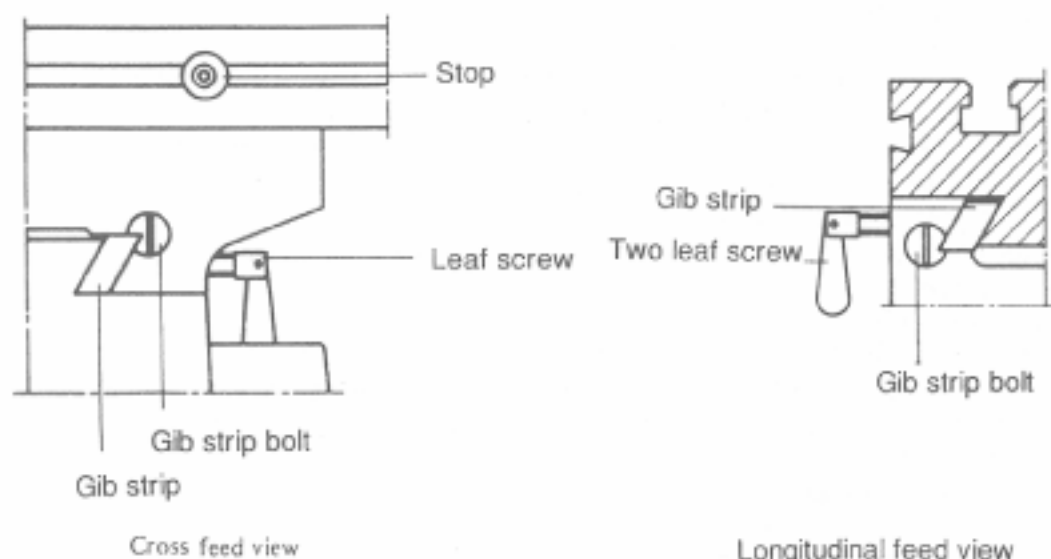

Fig.3.
7. ADJUSTING TABLE SLACK AND COMPENSATE FOR WEAR(see fig. 3)
- (1) Your machine is equipped with Jib strip adjustment to compensate for wear and excess slack on cross and longitudinal travel.
- (2) Clockwise rotation the job strip bolt with a big screw for excess slack otherwise a little counter clockwise if too tight.
- (3) Adjust the jib strip bolt until feel a slight drag when shifting the table.
8. CLAMPING, TABLE BASE, AND MACHINE BASE (see Fig. 3)